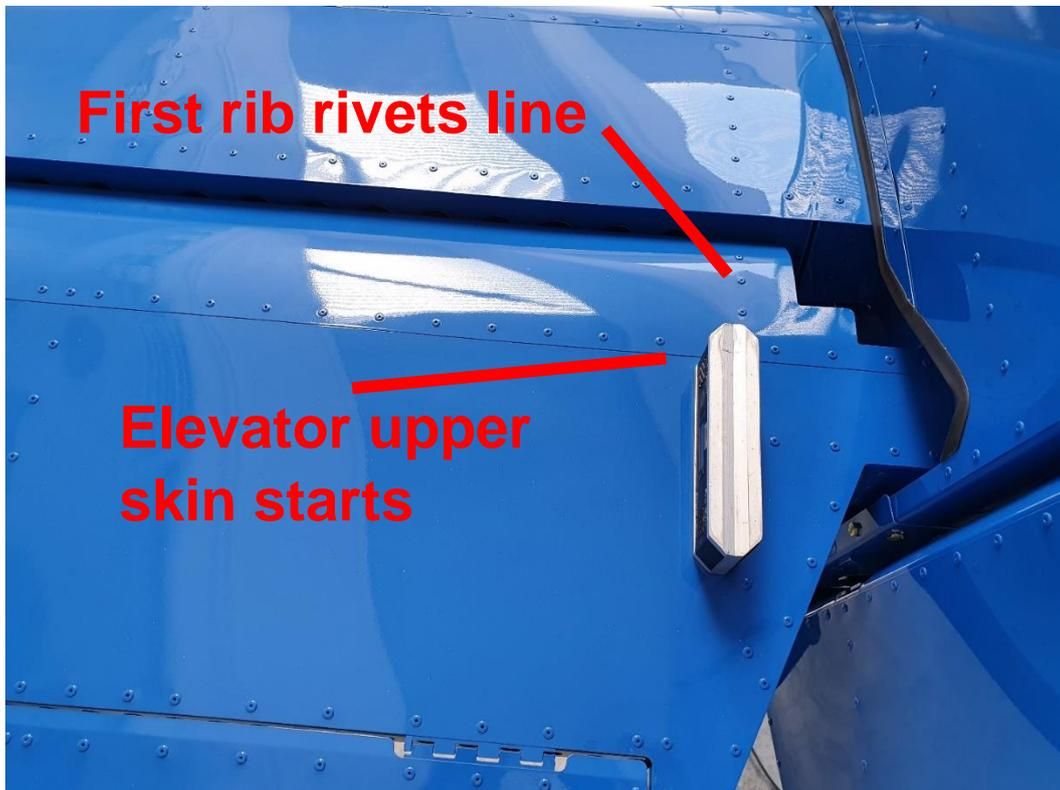

Figure 45: Digital spirit level position on Elevator
- Check the Elevator deflection with the digital level in the position shown in *Figure 45*. The angle read must be  $19^\circ$  with  $\pm 0.5^\circ$  of tolerance *Figure 46*. Attention: the Elevator deflection angle in respect of its chord is rotated of  $+6^\circ$  because the reading of the bubble is performed in the upper skin of the Elevator;